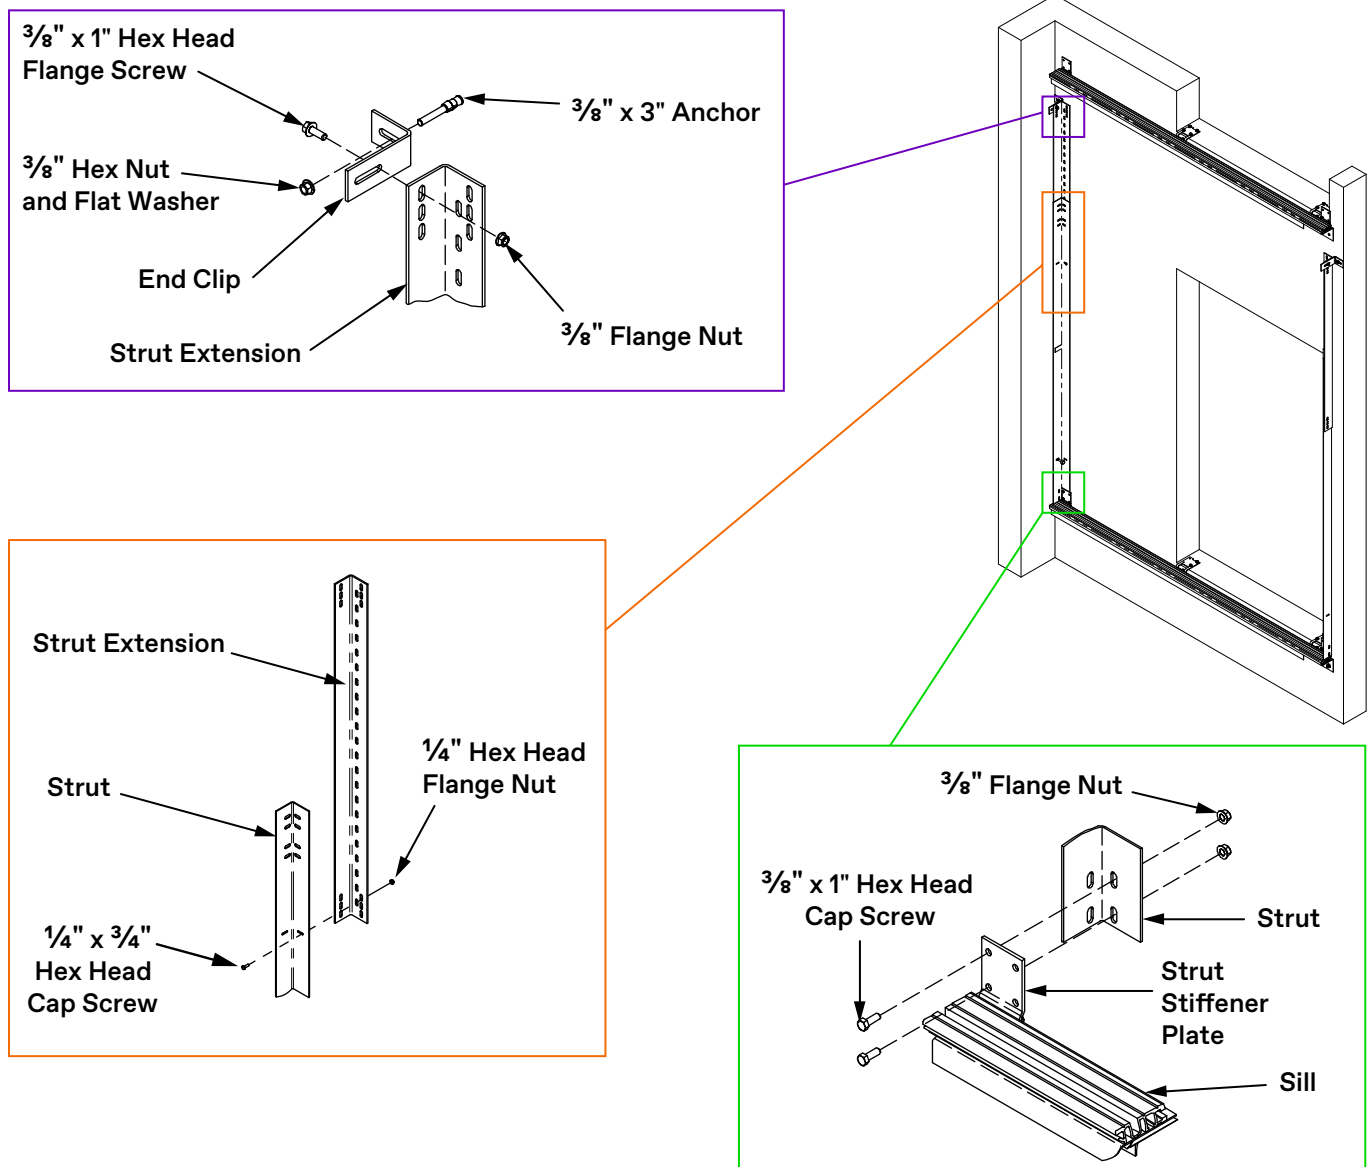

Figure 4 - Install Struts and Strut Extensions
1. Install a strut on the strut stiffener plate at each end of the sill; do not tighten the hardware. See Figure 4. The end with the vertical slots attaches to the strut stiffener plate.